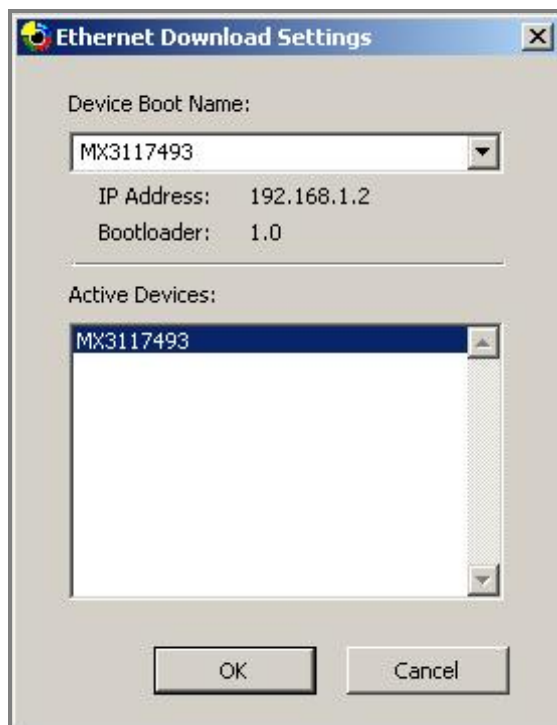

Figure 5-11 Ethernet Download Settings
12. When the EBOOT program displays the BOOTME messages, the 3-Stack board device should be displayed in the Ethernet Download Settings dialog, as shown in Figure 5-11. Double-click the active device, and then click **OK**.